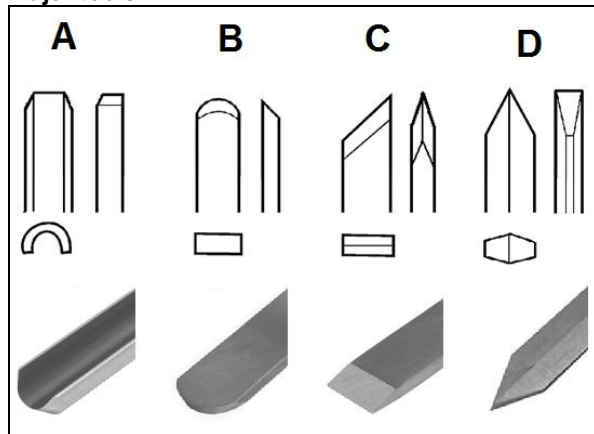
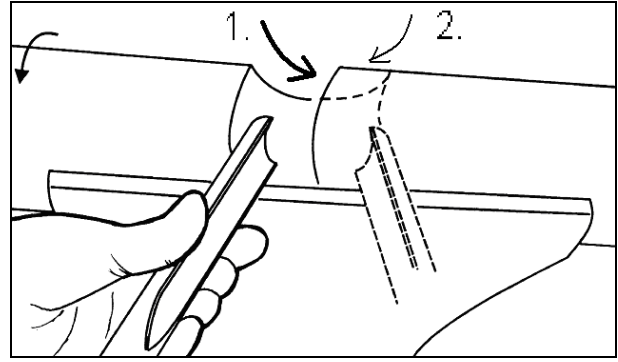
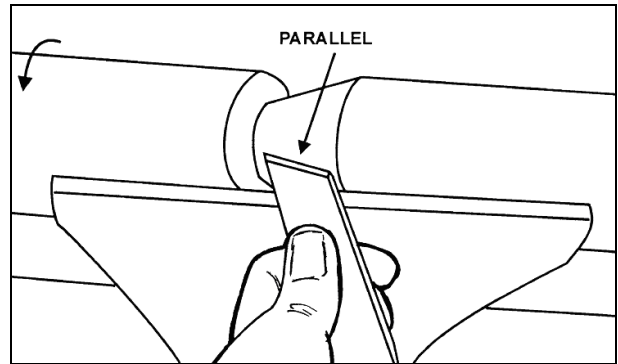

Fig 16
Fig 17
Fig 18
**Gouge (A, Fig 16)**, used for rapidly cut raw wood into round stock, for turning bowls and plates, for turning beds, coves and other detail (Fig 17).
**Scraper (B, Fig 16)**, used for diameter scraping and to reduce ridges.
**Skew Chisel (C, Fig 16)**, used to make vees, beads, etc. (Fig 18). The bevel of scuw is parallel to the cut.
**Parting tool (D, Fig 16)**, used to cut directly into the material, or to make a cut off. Also used for scraping and to set diameters.